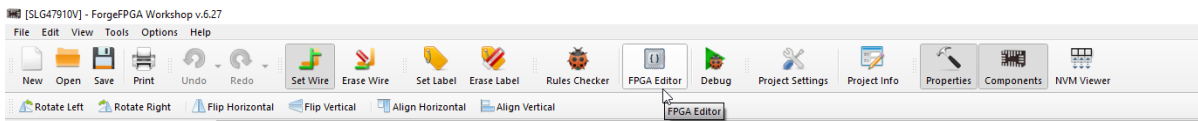

Figure 5: ForgeFPGA Tool Bar
1. Open the ForgeFPGA Workshop software in GreenPAK and select the SLG47910 device. From the ForgeFPGA tool bar, select the FPGA Editor Tab (see Figure 5).